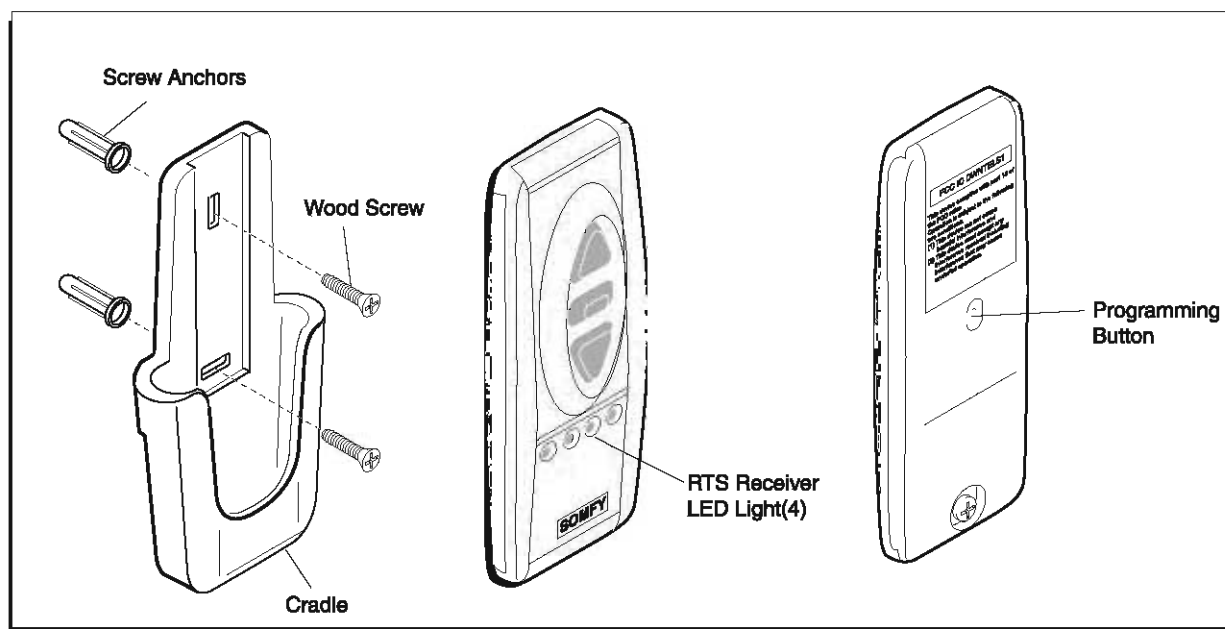

FIGURE 2
1. Press the Programming Button (PROG) of the receiver located in wind sensor control box (lower right corner) until LED **lights**. This indicates that for one (1) minute the receiver is ready to receive the address of the transmitter. After this time, the LED goes out.
2. Press the Programming Button on the back of the **transmitter** (Fig. 2) with a ballpoint pen until the **receiver's LED blinks**. The address of the transmitter is instantly memorized and the receiver automatically ends the programming mode.